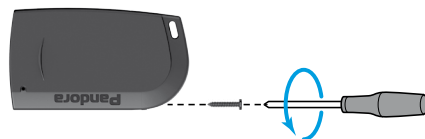

fig.1
- Unscrew the screw with a Philips PH00 screwdriver (fig.1);